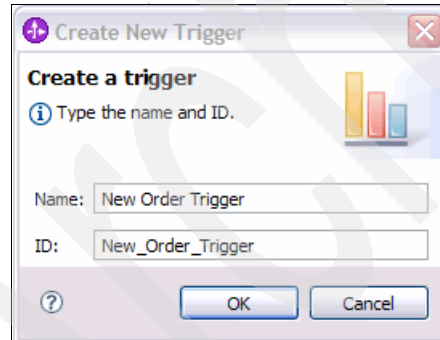

Figure 5-30 Creating a New Order trigger
2. In the Create New Trigger window (Figure 5-30), for Name, type New Order Trigger and click **OK**.